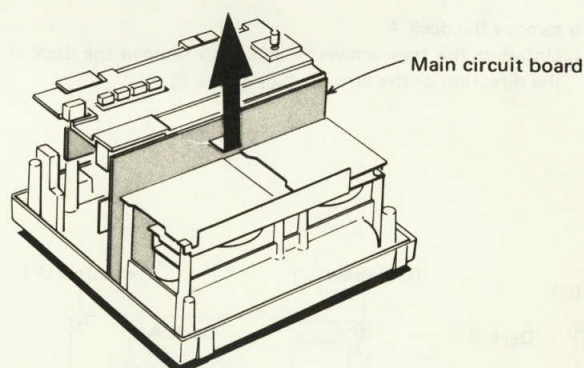

Fig. 10
- 4) Remove the main circuit board in the direction of the arrow. (See figure 10)